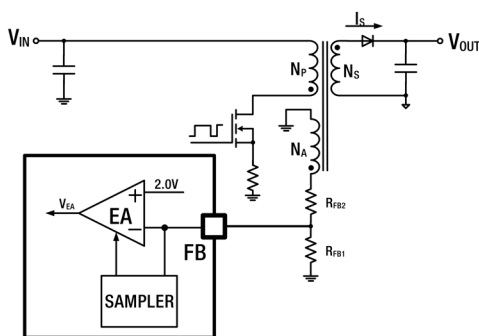
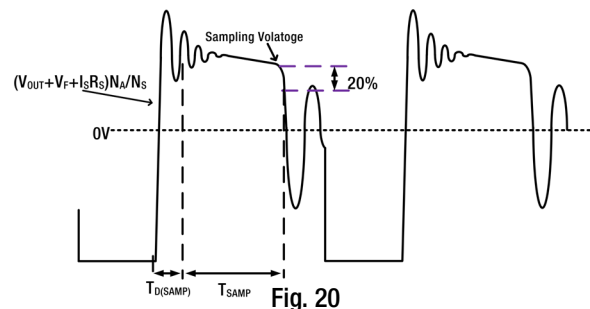

Fig. 19
Fig. 20
RVPW015 can sense the output voltage of the switching power supply by monitoring the auxiliary winding of the transformer. A sampling resistor connected to this auxiliary winding is tied to the FB pin. During the transformer's demagnetization phase, the voltage across the auxiliary winding is sampled and used as the negative input to the internal error amplifier (EA). This voltage is then differentially amplified against a fixed positive reference voltage, $V_{REF(REF)} = 2V$, to generate the duty cycle modulation voltage, V_{EA} , which is used to regulate the duty cycle of the converter. As illustrated in Figure 19, this process ensures that the converter adjusts its switching behavior to maintain output voltage regulation. The waveform of the auxiliary winding voltage during this process is shown in Figure 20. Once the control loop reaches a steady state, the sampled voltage at the FB pin stabilizes at the 2V reference voltage of the EA. Based on this steady-state condition, the output voltage of the converter can be calculated from the relationship between the auxiliary winding, the feedback resistors, and the output parameters.